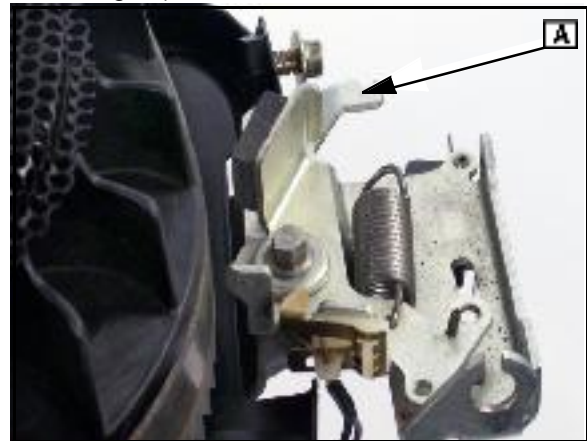

Fig. 45
1. Disconnect the tension spring on the flywheel brake from its anchor ([A] Fig.45).